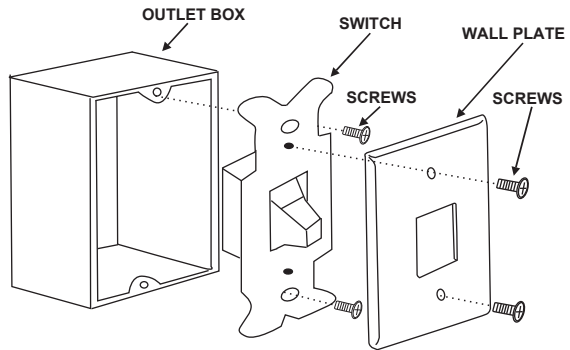

Fig. 6
Step 1. Disconnect the power and remove the existing wall plate and switch from the wall junction box. (Fig. 6).